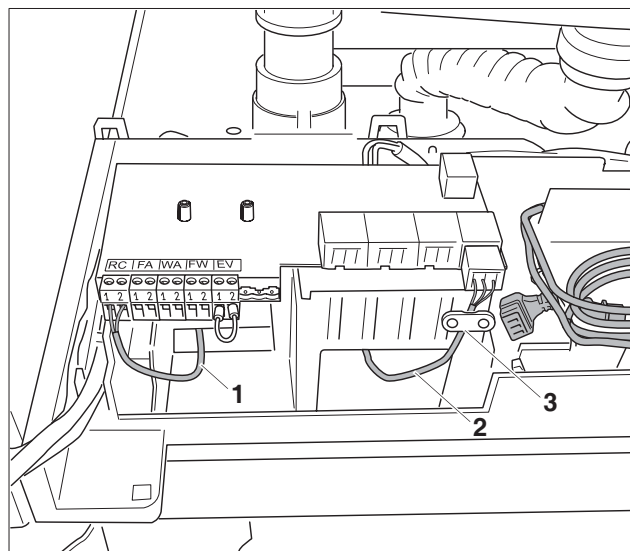

fig. 40 Routing the cable
- Route the cable for the low-voltage connections through the hole on the left (fig. 40, **item 1**).
- Route the cable for the 230-V connections through the hole on the right (fig. 40, **item 2**).
- Attach the cable for the 230-V connections using the strain relief clamps (fig. 40, **item 3**).